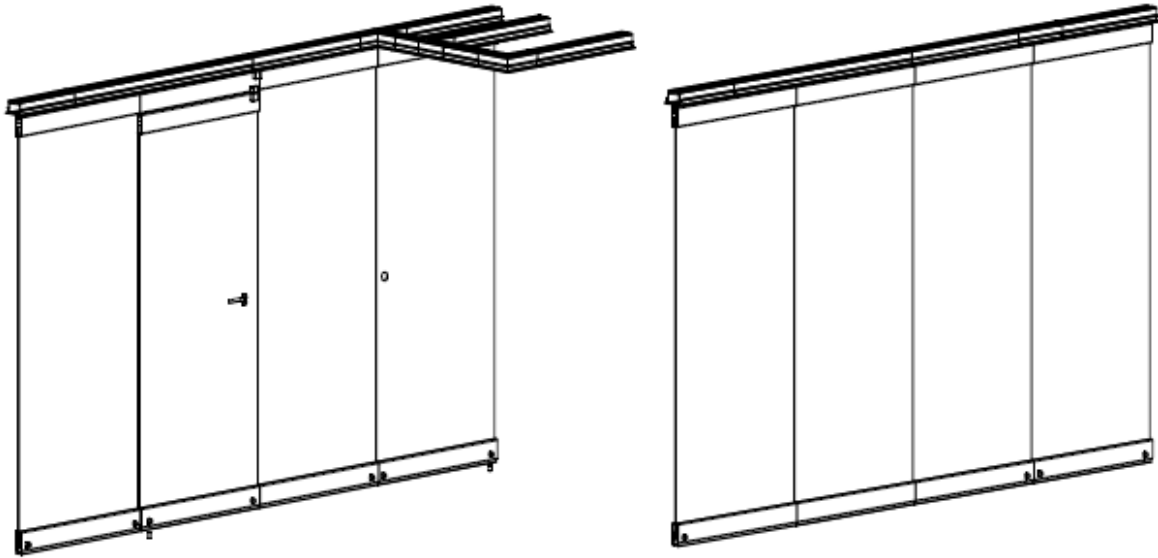

Fig.22. Illustration of paragraphs 11 for a ready-to-use partition wall (on the left: for 2-points; on the right: for 1-point)
10. Close the last wall-mounted panel (1 in Fig.1) to create a fully flat mobile partition wall (Fig.22) - only for the 2-point suspension wall.
2. Open the wall-mounted panel (1 in Fig.1) so it is adjacent to the wall under a parking rack (Fig.22) - only for the 2-point suspension wall